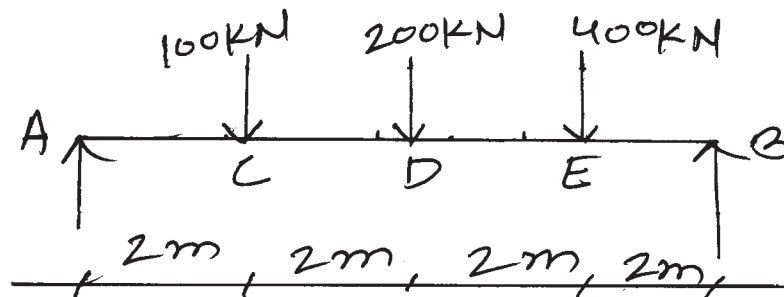

Fig. No. 3
- a) Draw S.F.D. and B.M.D. for a simply supported beam as shown in Figure No. 3.